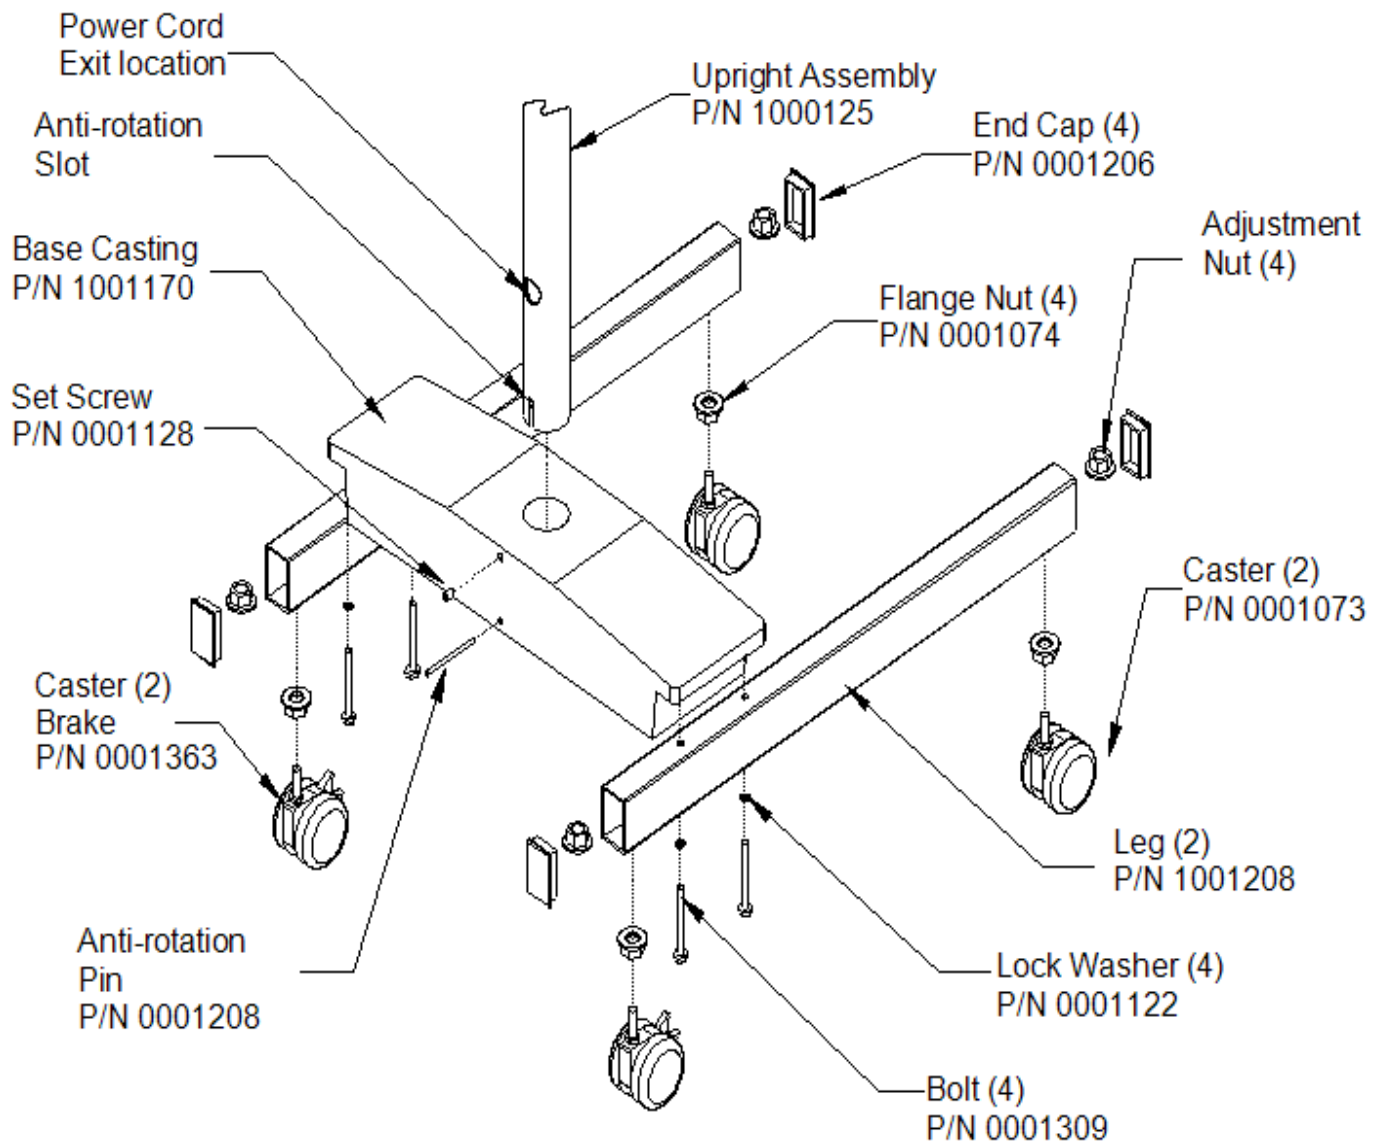

Figure 17. Floor Stand Base Installation
- Bolt the assembled legs onto the cast iron base using four $\frac{1}{4}$ "-20 x $1\frac{3}{4}$ " bolts and $\frac{1}{4}$ " lock washers. Position the floor base casting so that the set-screw in the base is at the rear of the assembly. See Figure 17. Floor Stand Base Installation.
- To level the base, remove the end caps at the end of each leg and adjust the caster bolts and nuts. Once the base has been leveled, tighten the nuts securely and insert the leg cap in the end of each leg. See Figure 17. Floor Stand Base Installation.